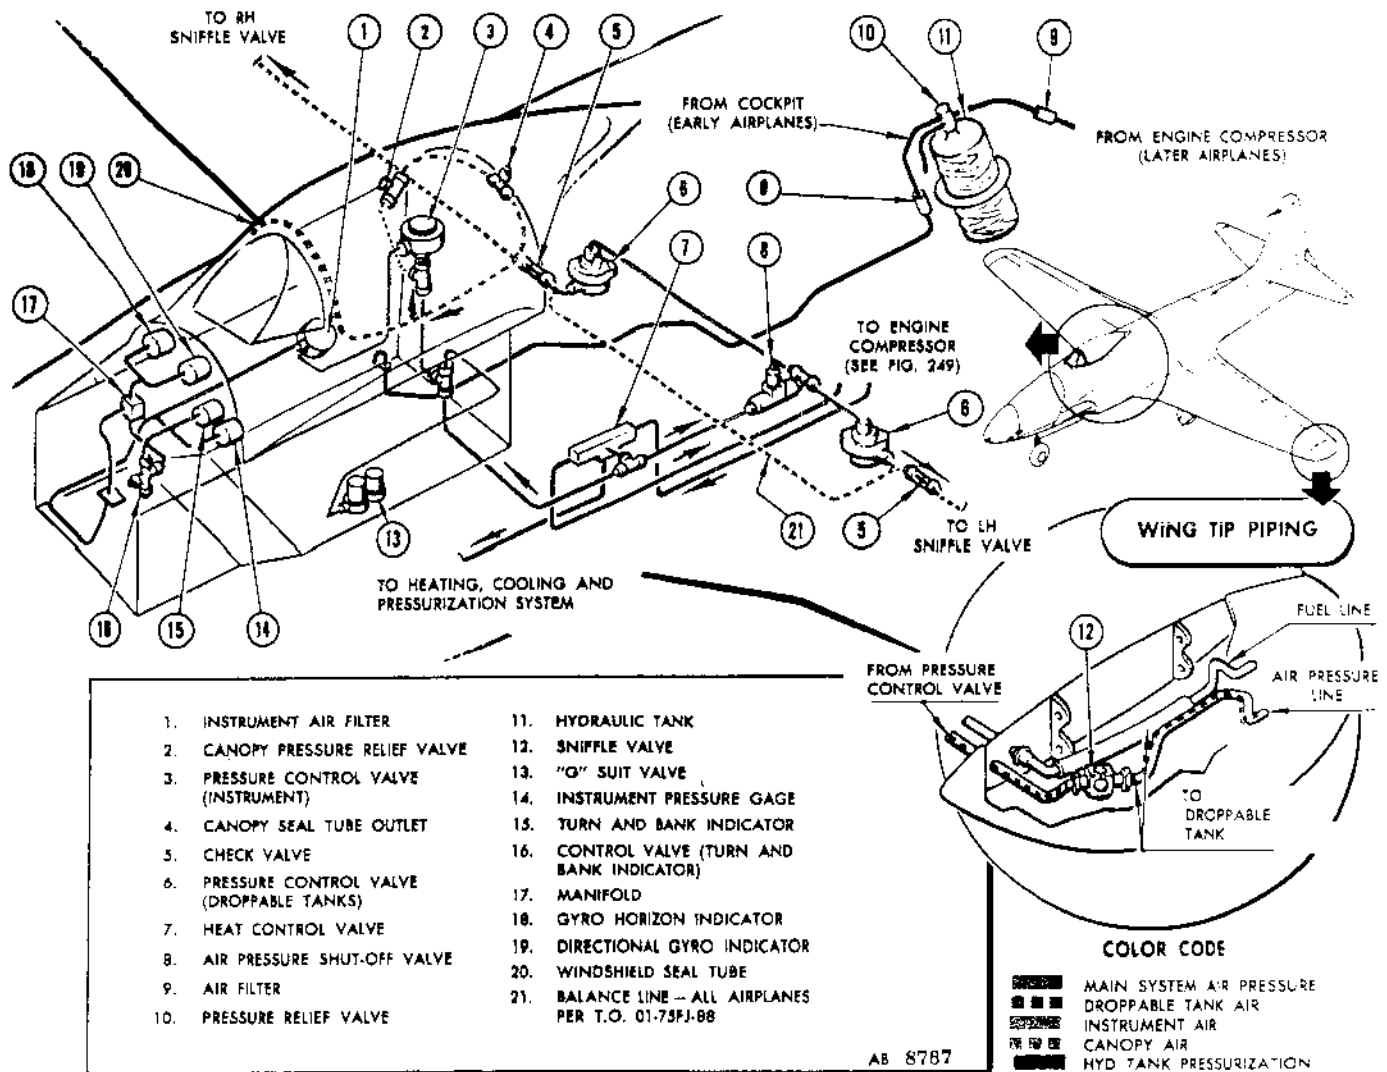
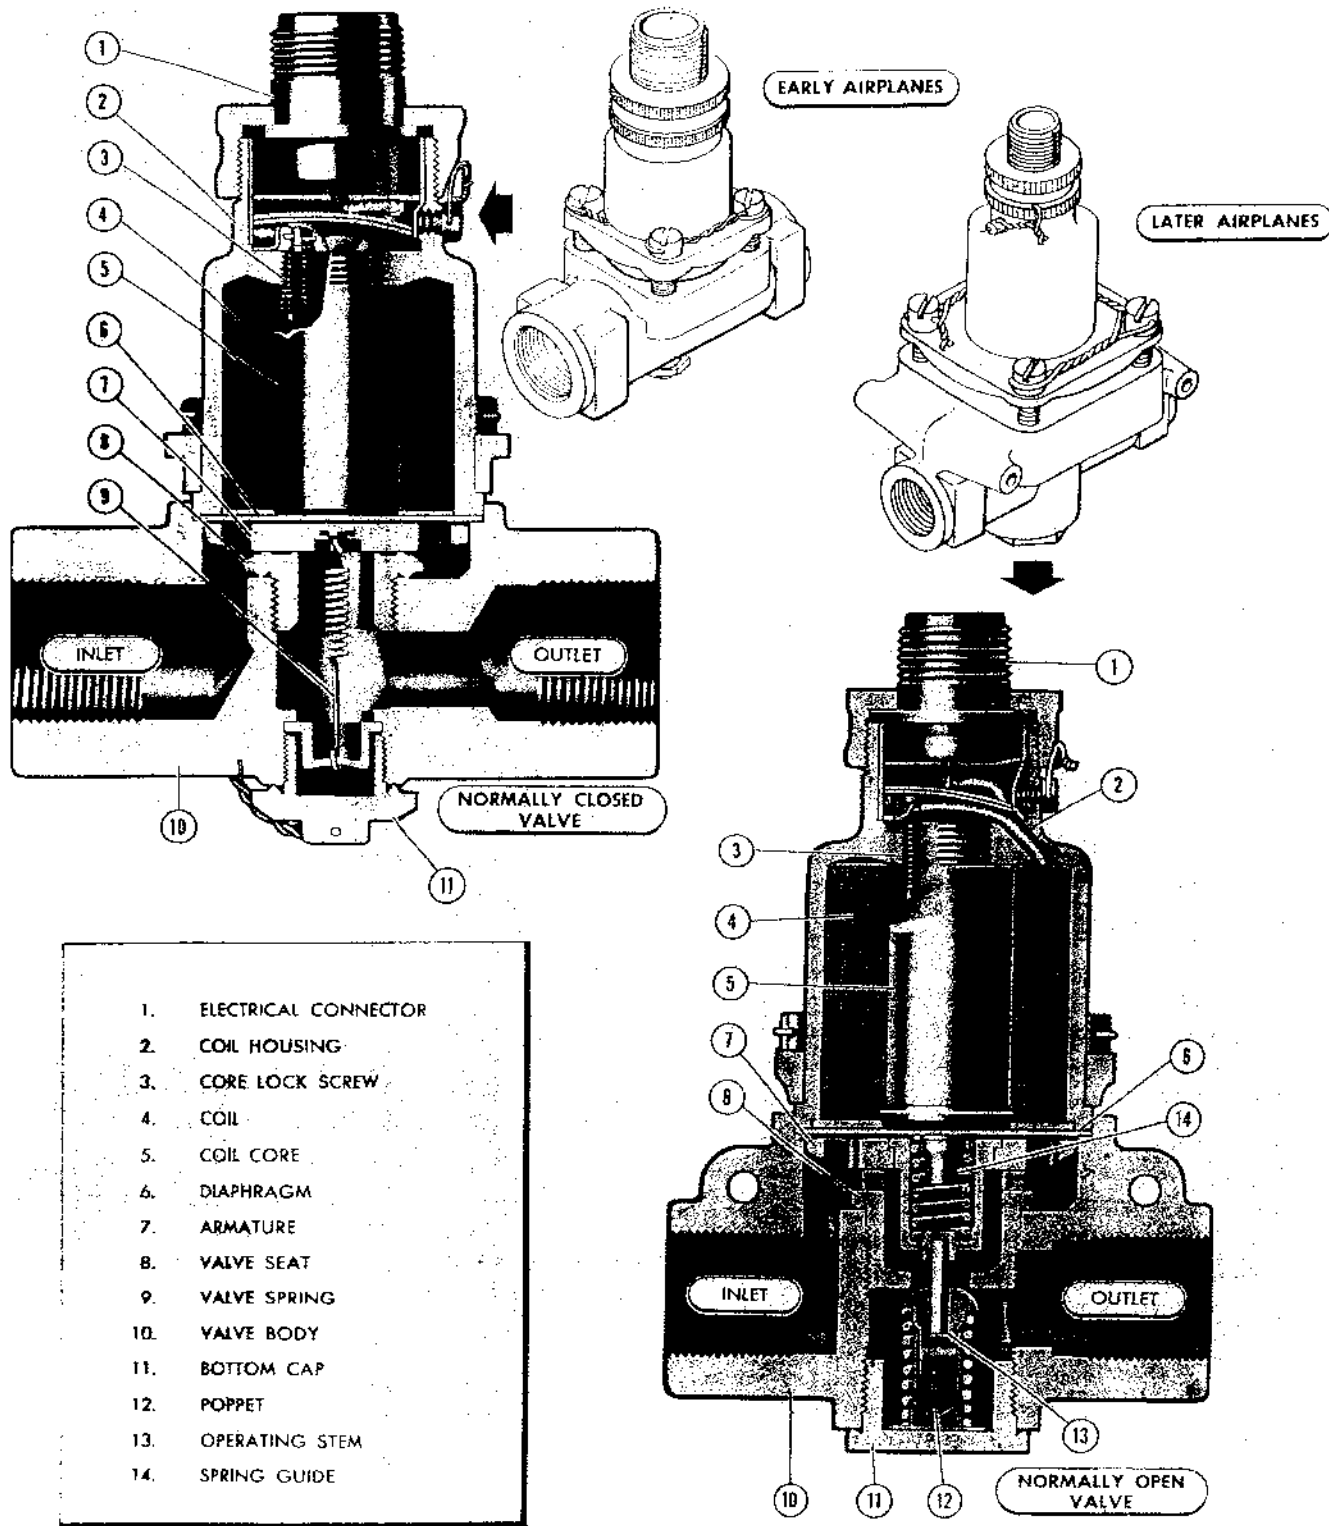

Figure 255 — Auxiliary Air Pressure System, F-80A-1, F-80A-5, and RF-80A-5 Airplanes Only
Figure 257 — Air Shut-off Valve
(See figures 255 and 255A.)
c. DROPPABLE FUEL TANK PRESSURIZATION SYSTEM. (See figure 255.)
(1) DESCRIPTION.—Fuel is transferred from the droppable tanks to the fuselage tank by applying air pressure to the droppable tanks. Air from the cockpit port of the heat-control valve is applied to the tanks through an electrically operated shut-off valve, a pressure control valve, and a combination check and relief valve.
(2) SHUT-OFF VALVE. (See figure 257.)—The electrically operated air shut-off valve is located in the hydraulic compartment below the fuselage fuel tank. A single valve controls the air flow to both droppable tanks. The valve is controlled by the drop tank switch on the fuel-tank selector panel.